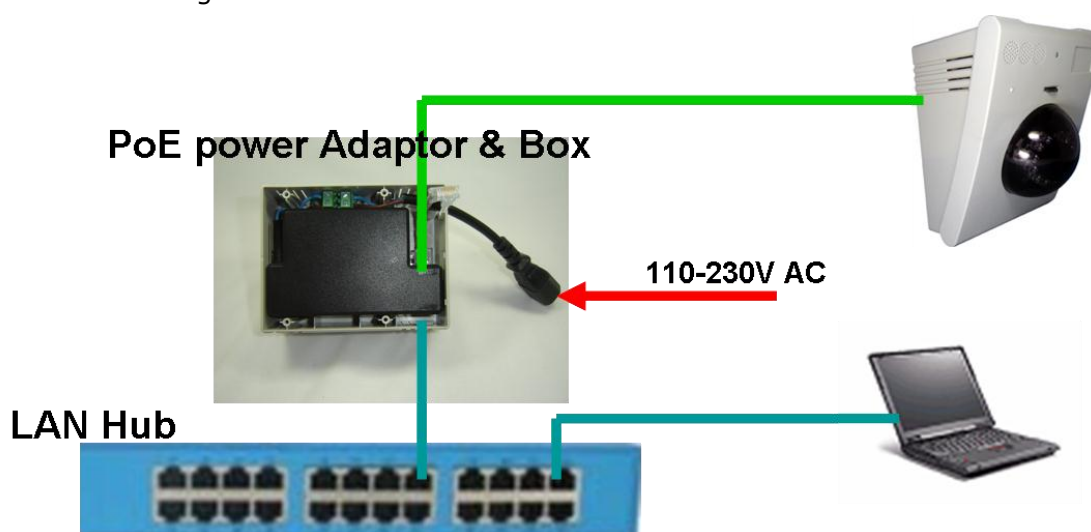

Figure 2-3. Connecting Network camera and PC using PoE Power Adaptor
- 1) If you have PoE power adaptor, connect the network camera and PC as illustrated in Figure 2.3. Both power and network connection are made with a single LAN cable.